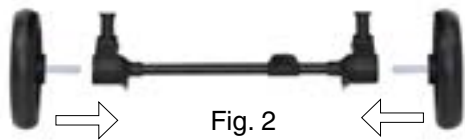
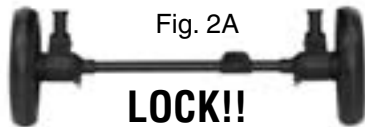

Fig. 2
Fig. 2A
- **To install the rear wheels.** Line the axle on each wheel up with the openings on each side of the rear axle hubs (Fig. 2). Firmly push each wheel in completely and until it locks into place. (Fig. 2A).